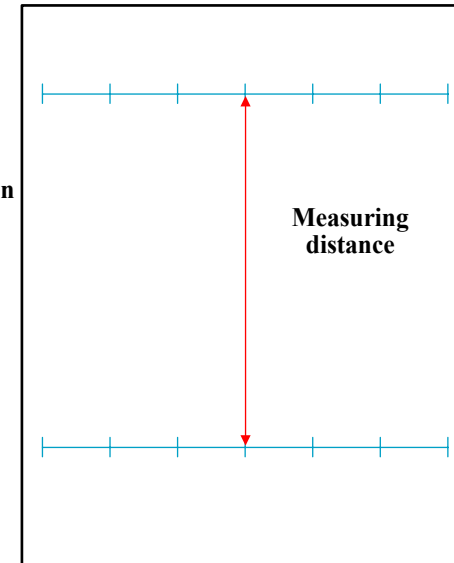

Figure 5-67. Adjustment Pattern
4. Measure the distance as shown in Figure 5-67.